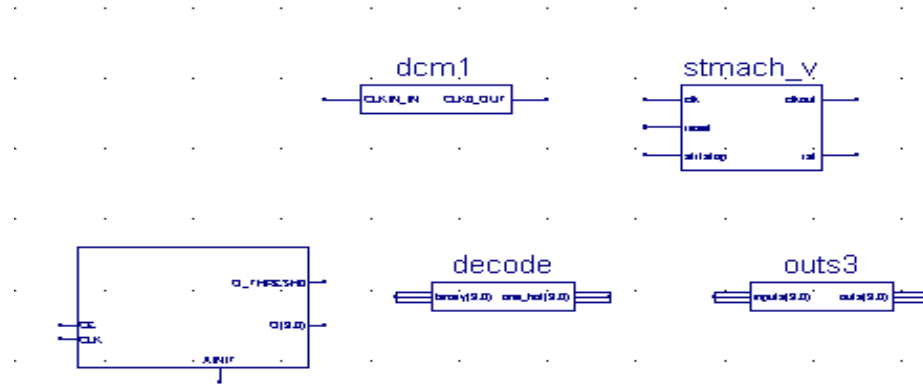

Figure 3-27: Placing Design Macros
4. Select the appropriate symbol, and add it to the Watch schematic as shown in Figure 3-27.